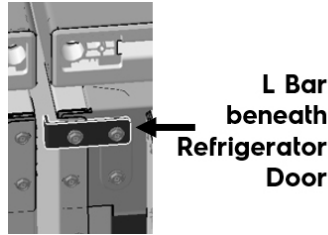

Fig. 8
4. With the refrigerator still on its back, use a $\frac{5}{16}$ " nut driver to remove two 4H bolts and fasten the 10H L-Bar (Fig. 8).